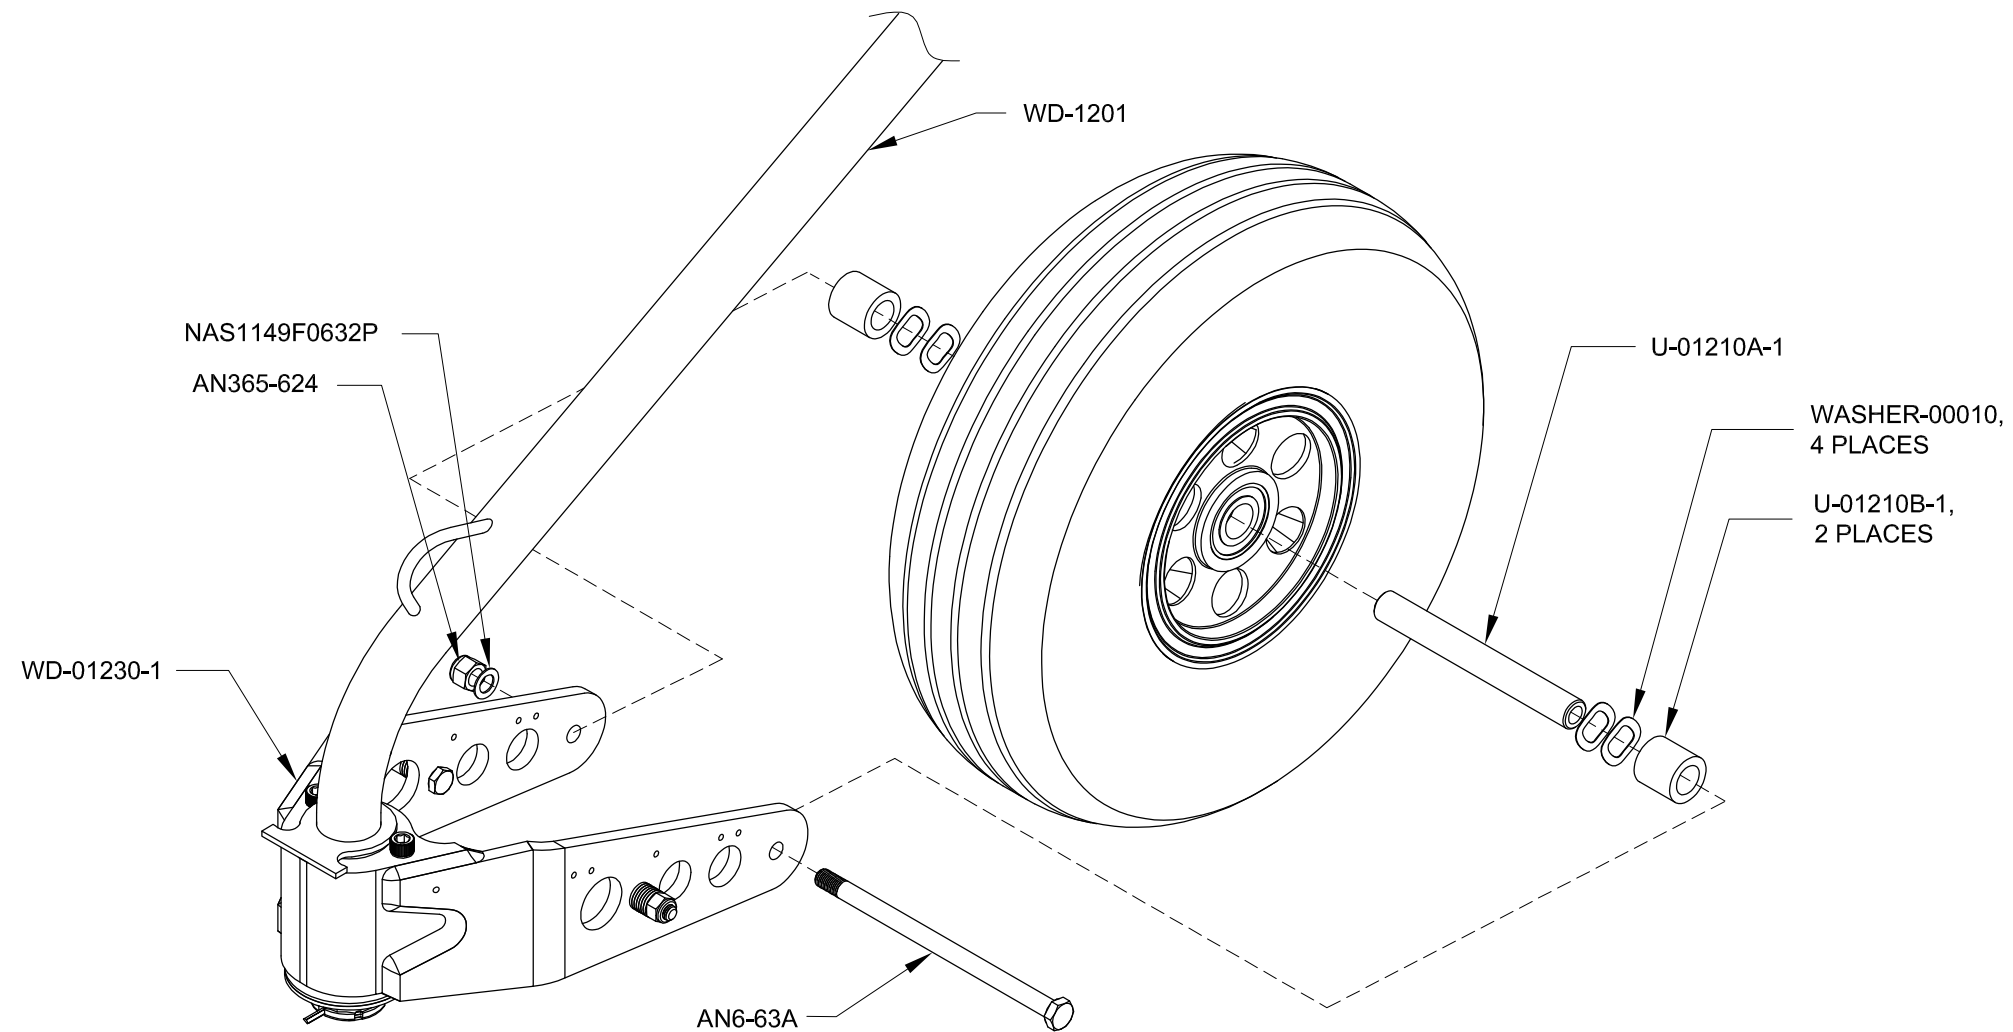

FIGURE 1: INSTALLING THE NOSE WHEEL AND TIRE ASSEMBLY
Step 1: Assemble the U-01210A-1 Axle, WASHER-00010 Wave Washers, and the U-01210B-1 Spacers as shown in Figure 1.
Bolt the Nose Wheel and Tire Assembly to the Nose Fork Assembly using the hardware called out in Figure 1.